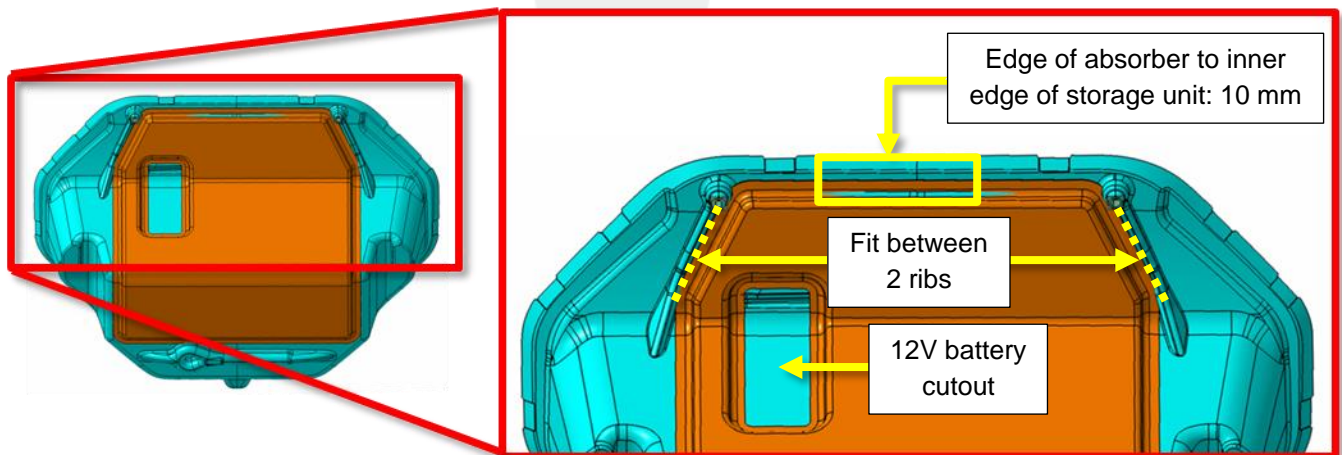

Figure 7 (acoustic absorber highlighted)
13. Remove the backing from the new frunk acoustic absorber and press it onto the storage unit. Use the guidelines in Figure 7 to accurately align the absorber.